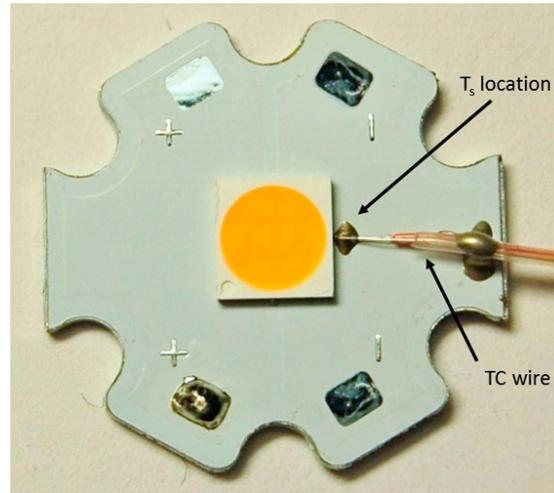

Figure 4. Actual placement of TC wire secured with thermal conductive epoxy. The thermal epoxy volume should be kept to minimum as shown.
The recommended location of the sensor pad is right next to the cathode pad of LUXEON 5050 emitter, as shown in Figure 4. To ensure accurate readings, the thermocouple (TC) tip must make close contact to the copper of the PCB onto which the LUXEON emitter thermal pad is soldered, i.e. any solder mask or other masking layer must be first removed before mounting the thermocouple onto the PCB. The tip of the TC wire should be placed as close as possible to the LUXEON emitter package on the exposed copper layer of the thermal pad. The thermal resistance $R\theta_{j-s}$ between the sensor pad and the LUXEON emitter junction was experimentally determined based on the MCPCB with the following construction: 2oz copper, 0.1mm dielectric with thermal conductivity of 3 W/(m.K). The junction temperature can then be calculated as follows: